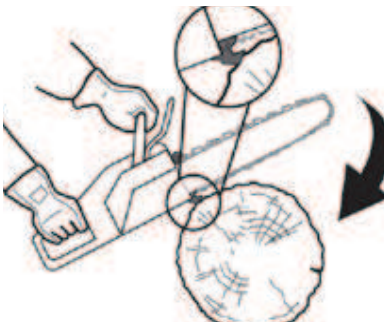

Fig. 26
5. Ensure the saw chain (7) is running at full speed before it makes contact with the wood. Use the spiked bumper to secure the product onto the wood before starting to cut and use it as a leverage point while cutting (Fig. 26).